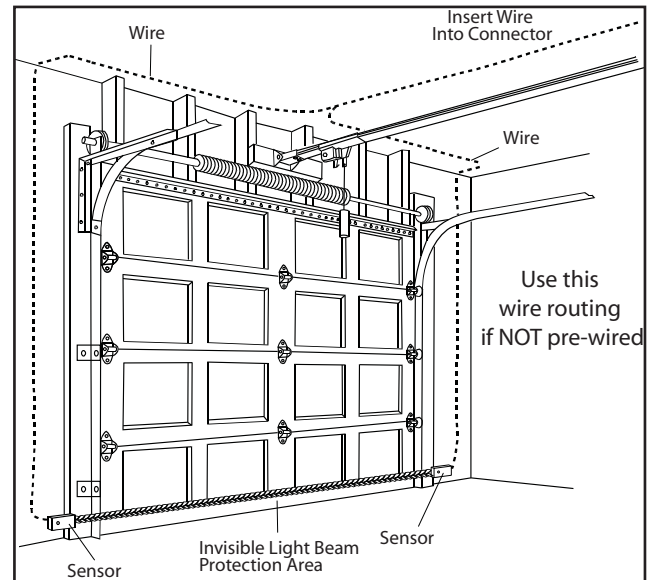

FIG. 4-6 Wire routing
- Securely fasten wires to wall and ceiling as you go (Fig. 4-6 on next page).